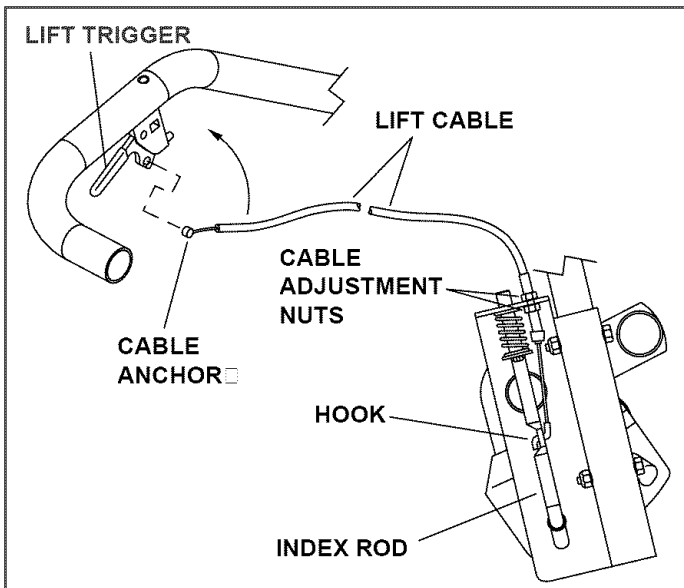

FIGURE 12
- Squeeze the lift trigger and slide the anchor end of the lift (short) cable into the hole in the trigger. Release the trigger and guide the cable through the slot in the bottom of the trigger and trigger housing. Insert the end of the plastic cable covering into the trigger housing. See figure 12.
- Connect the hooked end of the lift cable into the index rod, and install the threaded cable adjuster into the notch in the top of the index bracket, placing a nut on each side of the notch. See figure 12.
- Adjust the cable adjuster nuts so that when the trigger is squeezed, the bottom of the index rod raises enough to release from the latched position. The index rod should also lower far enough to lock in the latched position when the trigger is released. See figure 12.